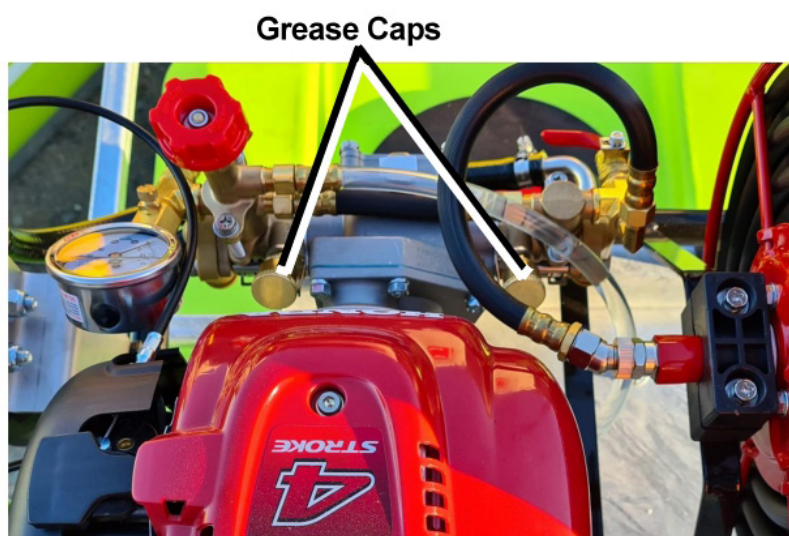

Figure 8 – Petrol Pump's Grease Cups
- Check the two grease cups located at the back of the pump, refer to Figure 8. Rotate the grease cups 2-3 turns clockwise every two (2) hours of operation. Once the grease caps are fully wound in, undo and refill with general purpose grease.